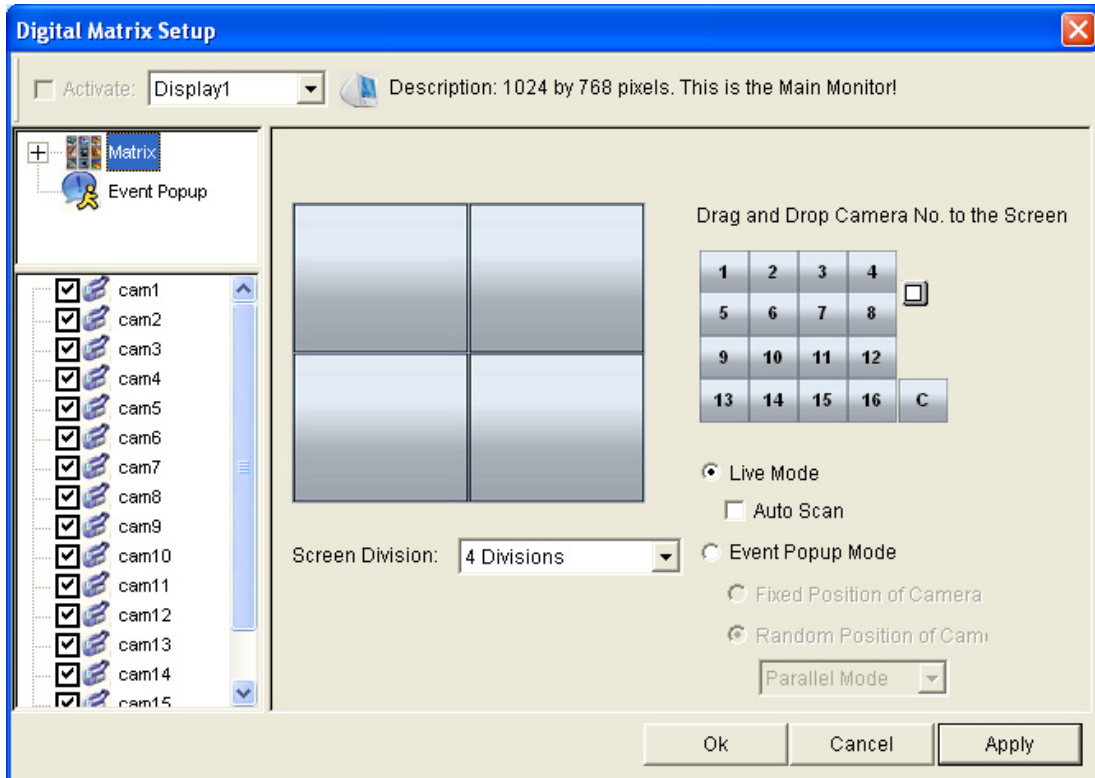

Figure 11-86
9. In the upper-left column, click the **Matrix** icon and return to Figure 11-86.
4. After above settings, click the **Matrix** icon and return to Figure 11-86.
4. Click the **Matrix** icon and return to Figure 11-86. Ensure the **Live Mode** option is selected.